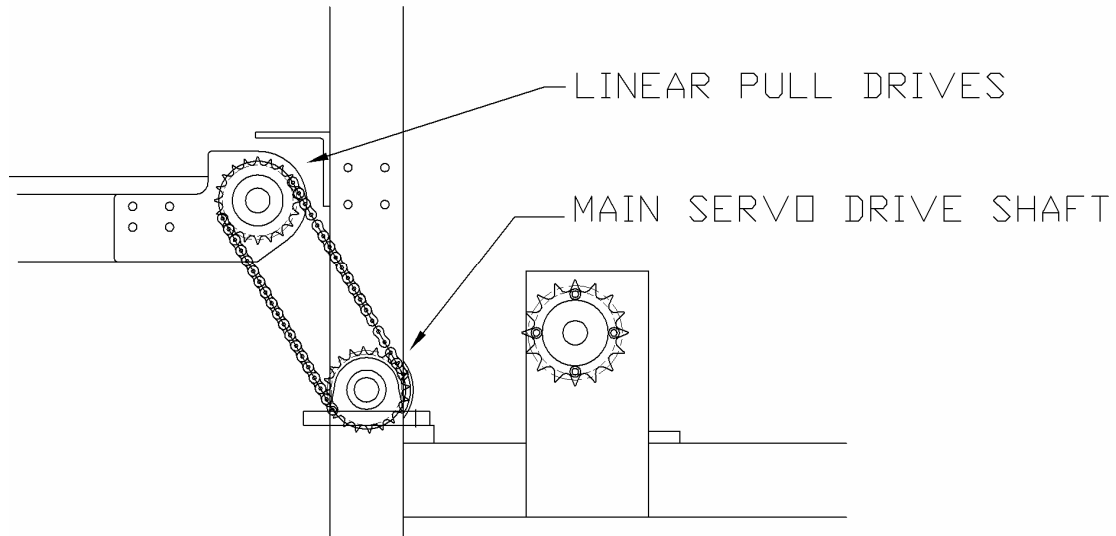

Figure 2.1 : Pull drive chain
Install the #40 chains from the main servo drive shaft up to the two (2) linear pull drives and tighten the linear drive to back mount plate bolts (See Figure 2.1). If the chains are too loose or too tight the linear drives can slide along the welded rail assembly by loosening the side bolts. Adjust the chain tension if necessary and retighten the bolts.